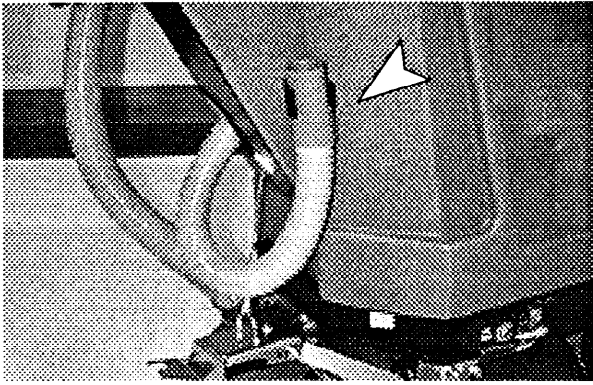

FIG. 16.
3. Store the vacuum hose in the clip provided as shown. (*Figure 16*)